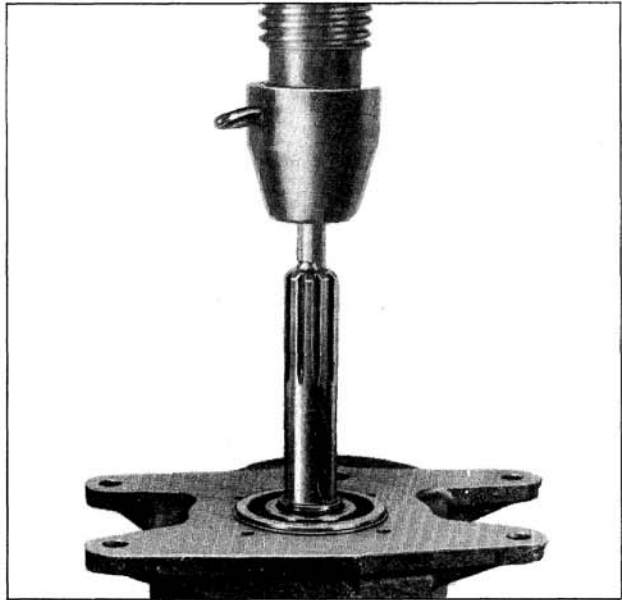

Fig. 7-14 Removing Clutch Gear from Bearing
3. Support rear of case in arbor press as shown in Fig. 7-14 and press shaft from bearing. Tap bearing from case.